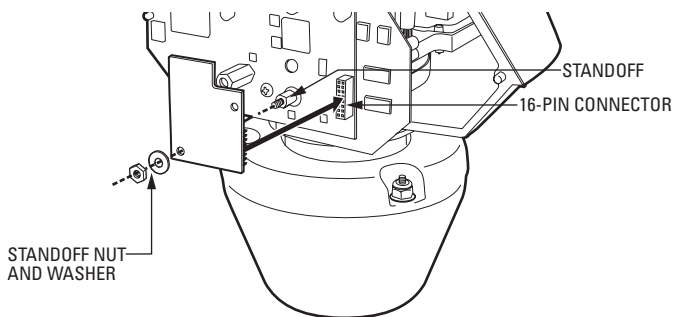

Figure 3. Installing the TXB-V into the Esprit
7. Install the TXB-V on the Esprit circuit board (refer to Figure 3):